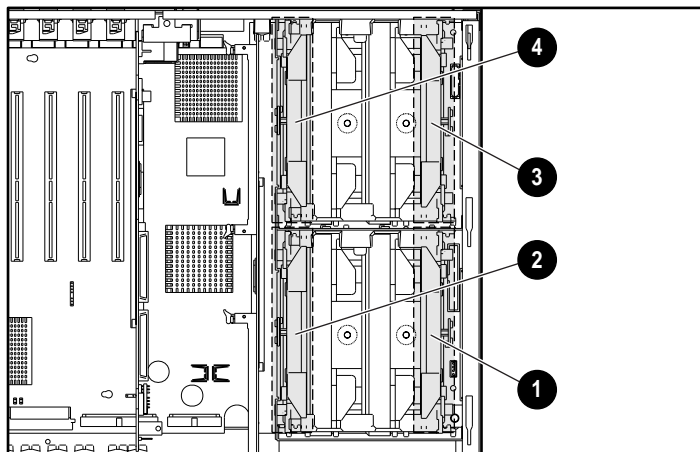

Figure 4-5. Processor power module locations
4. Install the processor power module (PPM) in the slot next to the processor as shown in Figure 4-5.